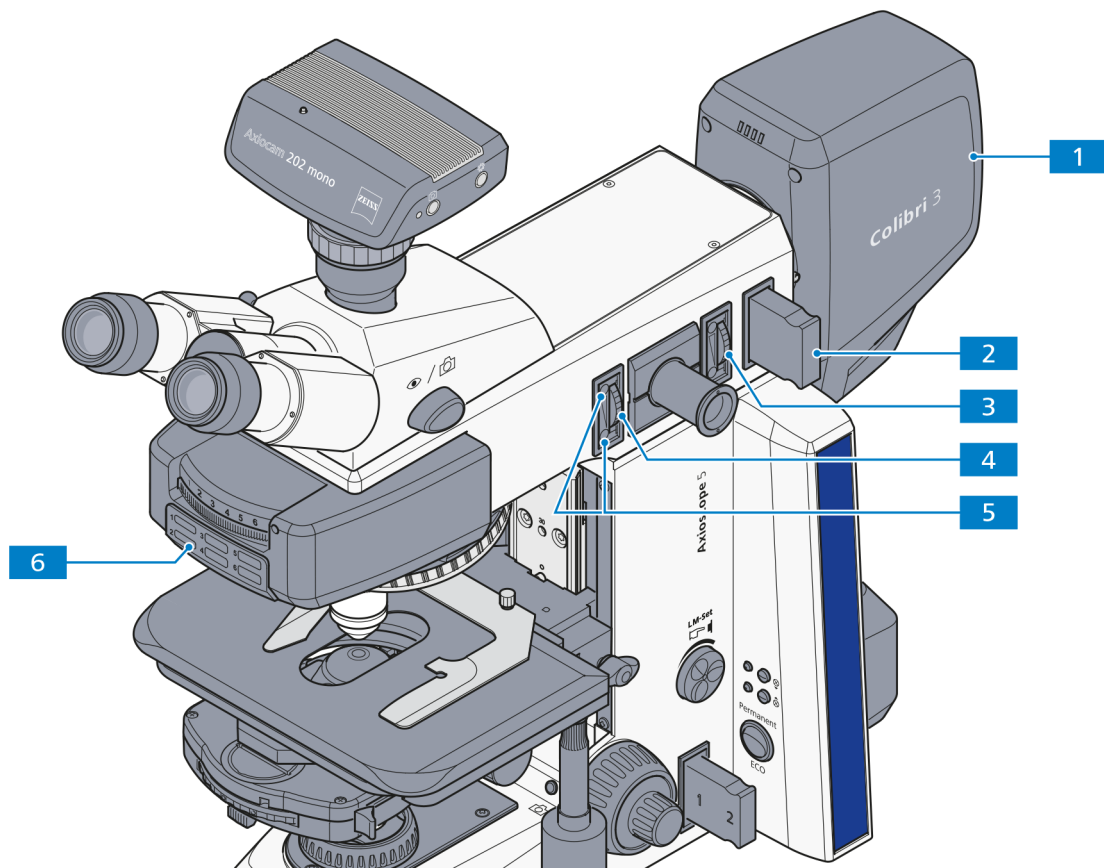

Fig. 4-20 Components for reflected light fluorescence
- Keep the light path in the reflected light illuminator blocked via the elimination position of the filter slider for reflected light (Fig. 4-20/2).
- Switch on the Colibri 3 illuminator by pushing the **RL** button (Fig. 4-20/7).
- Press the **Intensity/LM** button (Fig. 4-20/6) briefly for less than 1.5 seconds repeatedly to activate the required LED module or all LED modules of Colibri 3 together. The indicator light of the respective LED module on the Colibri 3 lights up when this module is switched on.
- On the reflector turret/slider (Fig. 4-20/8), choose the FL P&C reflector module with the desired fluorescence filter combination (depending on the excitation mode) and switch it on.
- Now unblock the light path in the reflected light illuminator with the filter slider for reflected light (Fig. 4-20/2).
- Open the aperture diaphragm (Fig. 4-20/3) enough to see the whole objective exit pupil.
- Replace the eyepiece in the tube and close the field diaphragm (Fig. 4-20/4) enough to make it visible in the field of view.
- Using both centering screws (Fig. 4-20/5), center the field diaphragm on the edge of the field of view.